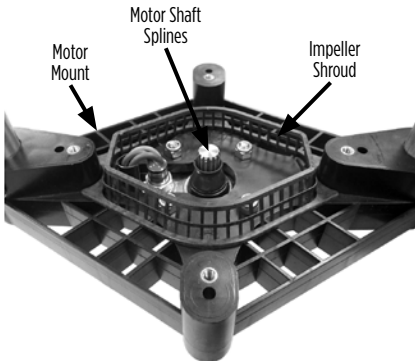

Figure 6
- Position impeller shroud on motor mount as shown (Figure 6). No fasteners are required.
- Align the splines of impeller to splines of motor shaft (Figures 6 and 7), and push the entire assembly down onto the motor shaft (Figure 8). After activation the impeller will seat itself to the correct location on the motor shaft.